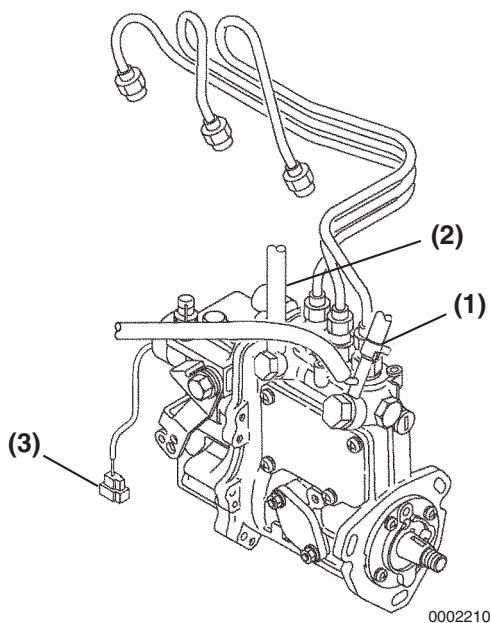

Figure 4-3-8
8. Remove the fuel supply line (**Figure 4-3-8, (2)**) from the fitting on the fuel injection pump.
11. Separate the stop solenoid wiring connector (**Figure 4-3-8, (3)**).